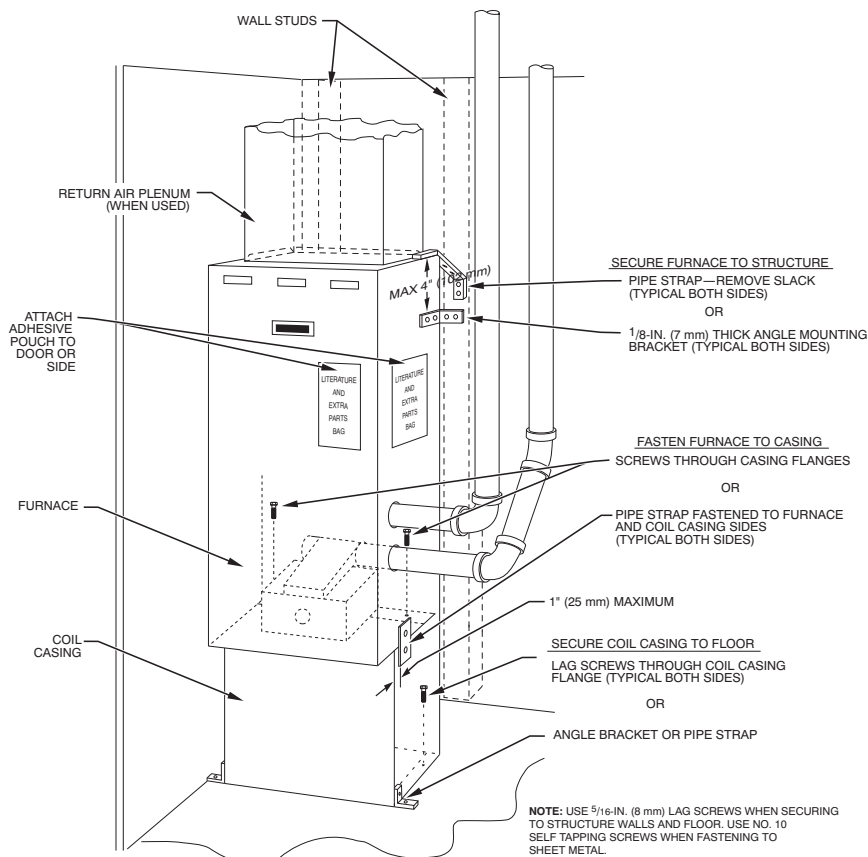

Fig. 1 - Securing Furnace to Structure
Attach adhesive pouch containing literature packet and gas conversion parts to outside of main furnace door or accessible side of furnace for use at a later date. (See Fig. 1.)
RECOMMENDED METHODS OF SECURING FOR TYPICAL INSTALLATION. (SEE FIG. 1.) ALL MOUNTING HARDWARE IS FIELD SUPPLIED.
4. Attach adhesive pouch containing gas orifices and Installation Instructions to front of main furnace door or accessible furnace side. (See Fig. 1 or 6.) Pouch must not cover or block vents on door.